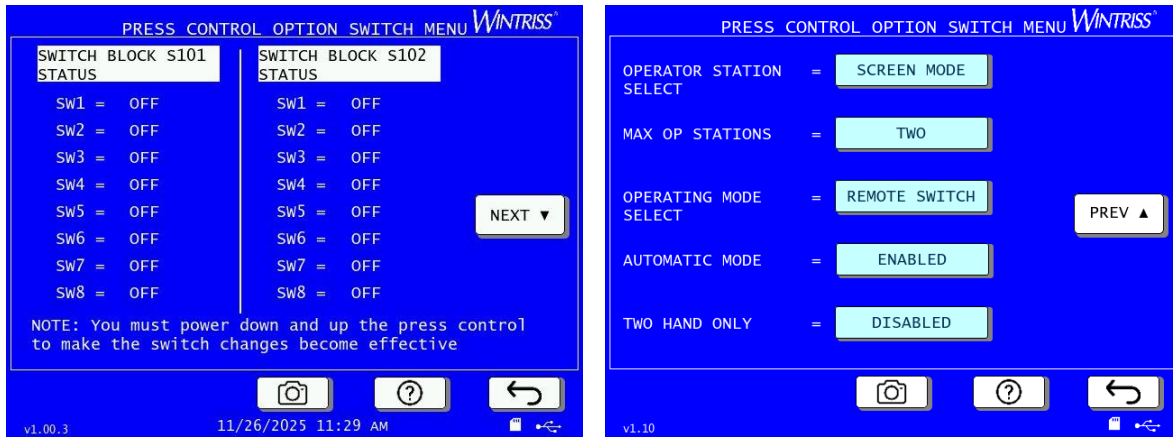

Figure 3-14. Press Control Option Switch Menu Screens
3. Press PRESS OPTIONS. The Press Control Option Switch menu, Figure 3-14, appears. Press NEXT or PREV to see the screens.
2. Press PRESS OPTIONS. The press control option switch menu appears, Figure 3-14. You can view the switch settings on this screen. The switch settings must be changed on the processor board (see *Setting Press Option Switches*, page 168.)